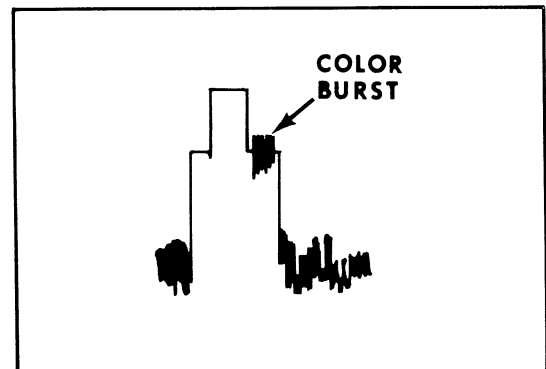
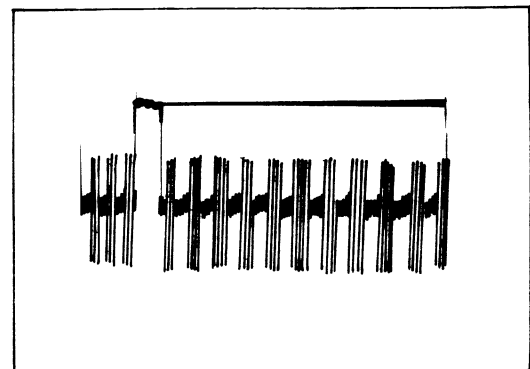

Figure 6-2. Color-Burst Shows to Right of Sync. Pulse
Figure 6-3. Typical Output From Color-Bar Generator
- k. Figure 6-2 shows typical color TV signals. The color-burst is situated immediately to the right of the sync pulse. When a color bar generator is used, the composite display resembles that of Figure 6-3.